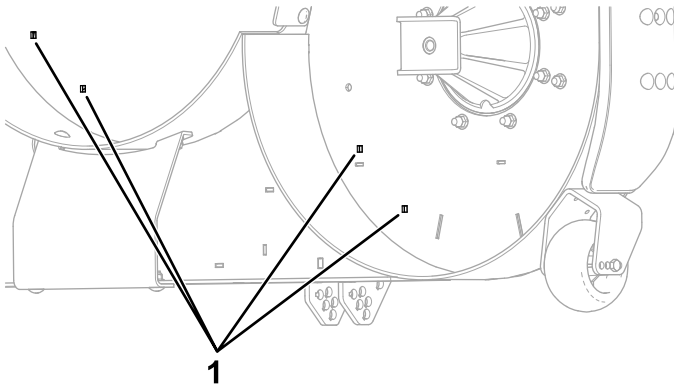

Figure 4
1. Remove the 4 plugs from the mower deck (Figure 4).